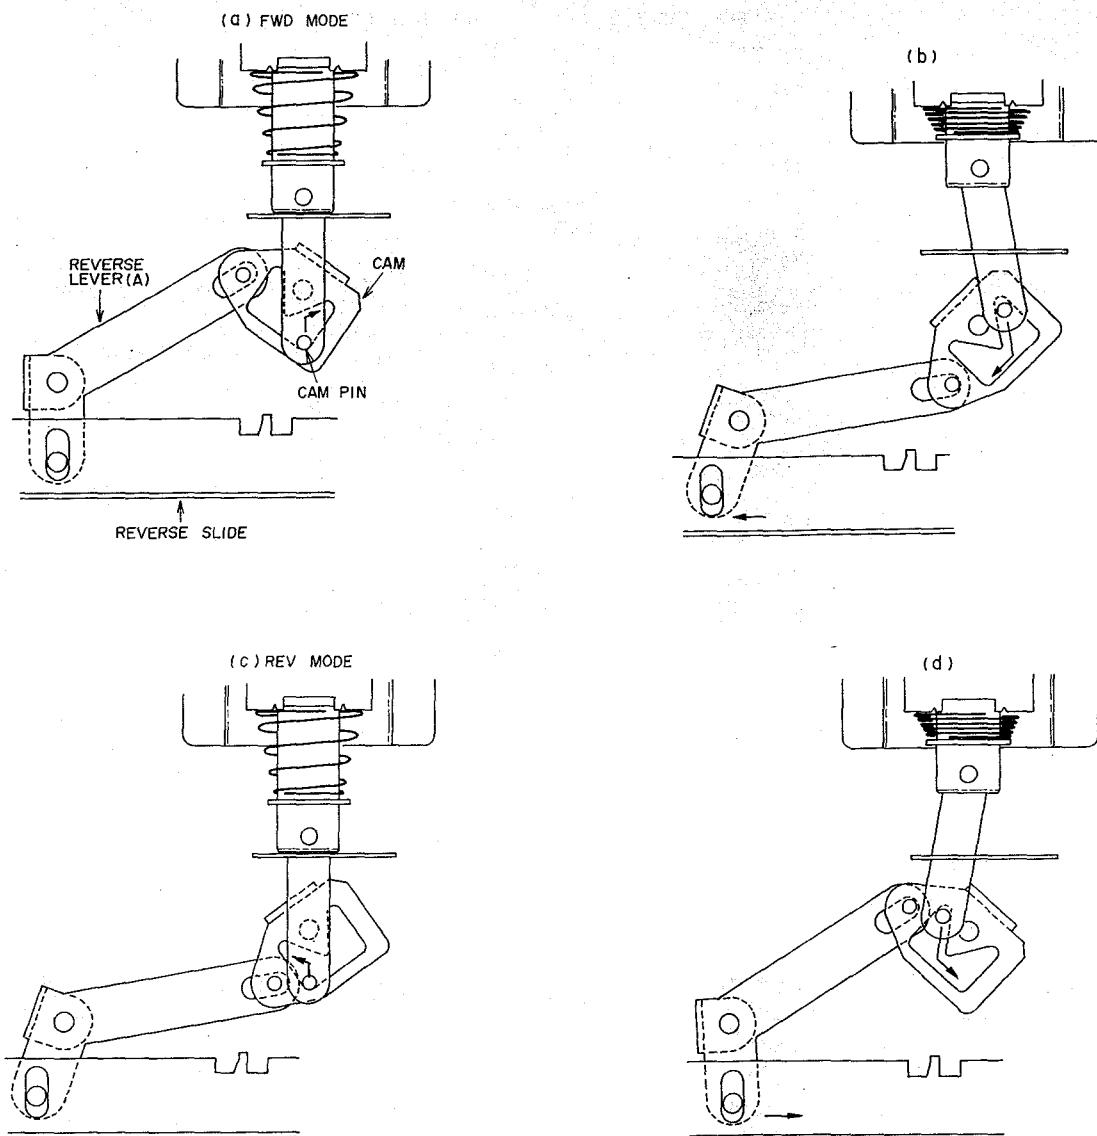

Fig. 6
1) The situation in the FWD Mode is shown in Fig. 6(a). When the Direction Switch is depressed to change into the REV Mode, the reverse plunger operates instantaneously and the cam pin moves along the cam groove in direction of the arrow(a). The reverse slide moves to the left (Refer to Fig. 6(b)) by the movement of the reverse lever (A). And since the Reverse Plunger operates on instantaneously by the Sys. Con. circuit, the
situation is fixed at REV Mode (Fig. 6(c)) after the cam pin moves in the direction of the arrow (Fig. 6(b)).
2) Next, to change from the REV Mode to the FWD Mode, depress the Direction Switch. Same operation as in 1) takes place: the moment the reverse plunger operates is as in Fig. 6(a), when the reverse plunger returns the situation is as in Fig. 6(a), and then the FWD Mode is fixed. These operations also take place when the detector tape guide detects the leader tape.